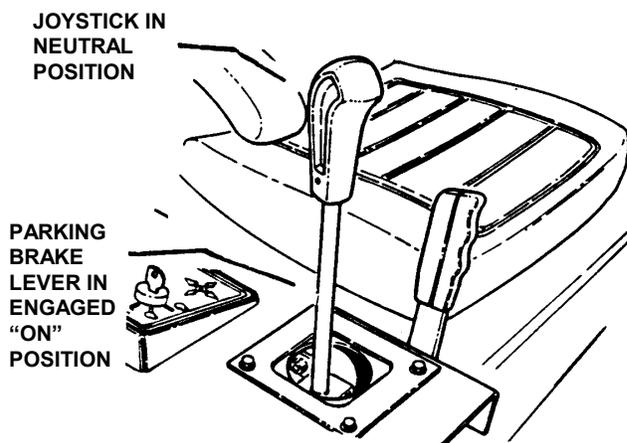

FIGURE 2.6
**NOTE:** Motion control lever must be in the Neutral position to engage brake. See Figure 2.6.